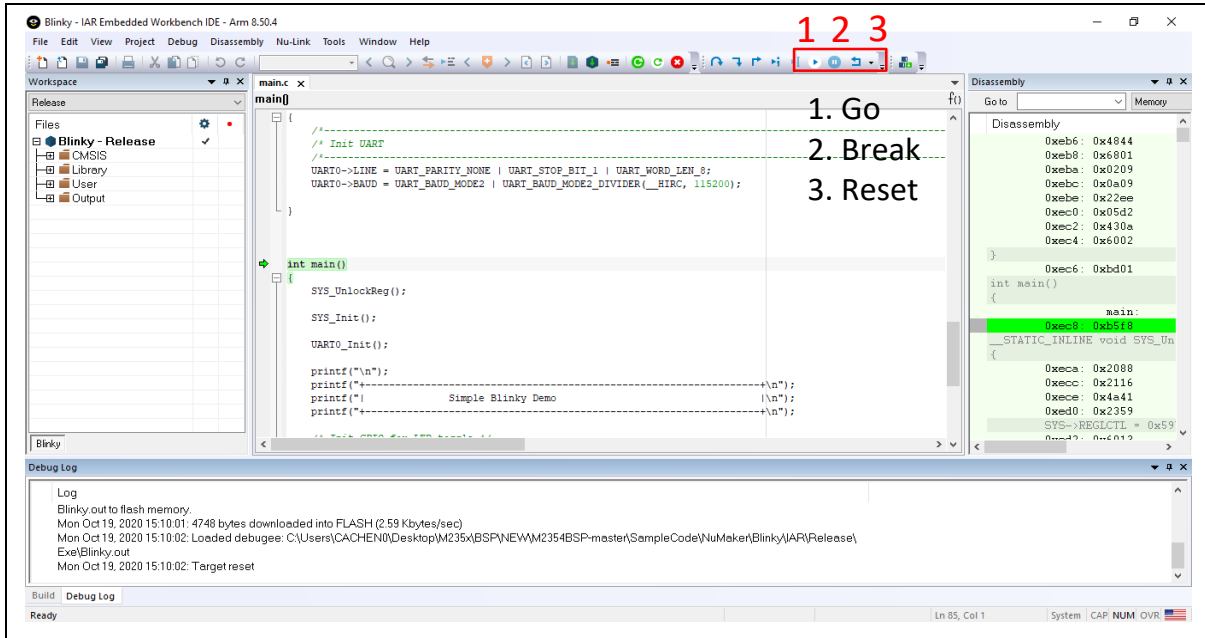
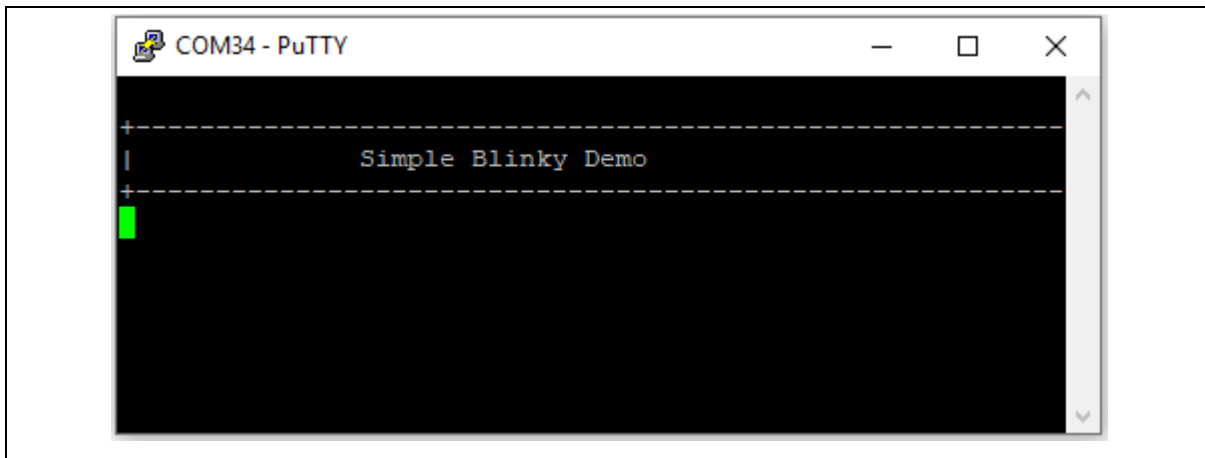

Figure 5-15 IAR EWARM Debug Mode
Figure 5-16 Debug Message on Serial Port Terminal Windows
- Figure 5-15 shows the debug mode under IAR EWARN. Click “Go” and the debug message will be printed out as shown in Figure 5-16. The project can be debugged under debug mode by checking source code, assembly language, peripherals’ registers, and setting breakpoint, step run, value monitor, etc.